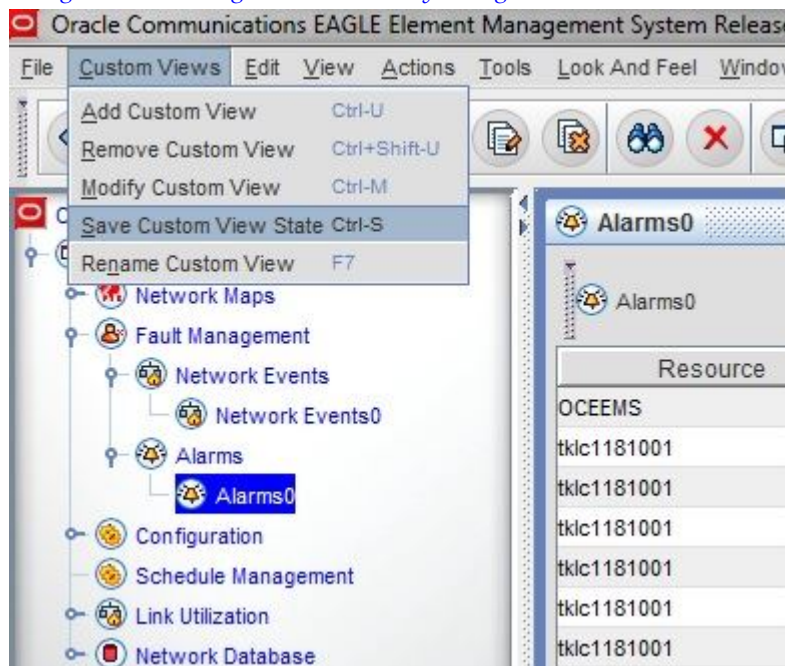

Figure 125: Saving Custom View By Using Menu Bar
- From the **Custom Views** menu in the top menu bar, choose **Save Custom View State** as shown in Figure 125: Saving Custom View By Using Menu Bar.